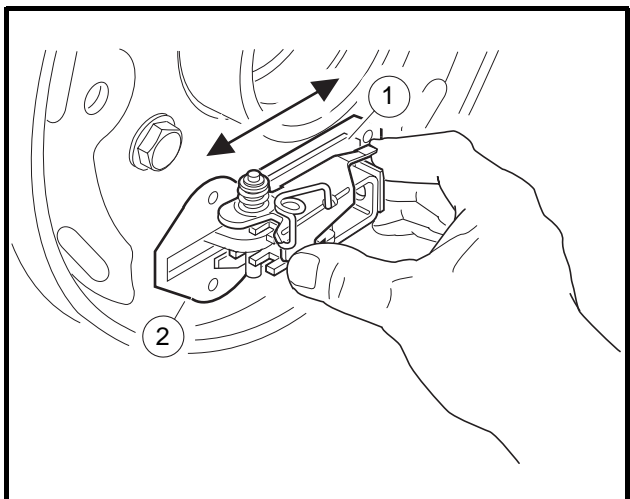

Figure 6-8 Lubricate Slide and Slide Plate
3. Lubricate the slide (1) and slide plate (2) with dry moly lubricant (CCI P/N 1012151) on both sides of the backing plate (**Figure 6-8, Page 6-4**). After lubricating, work the slide back and forth to ensure that it slides smoothly and easily. Install rubber boot onto backing plate.